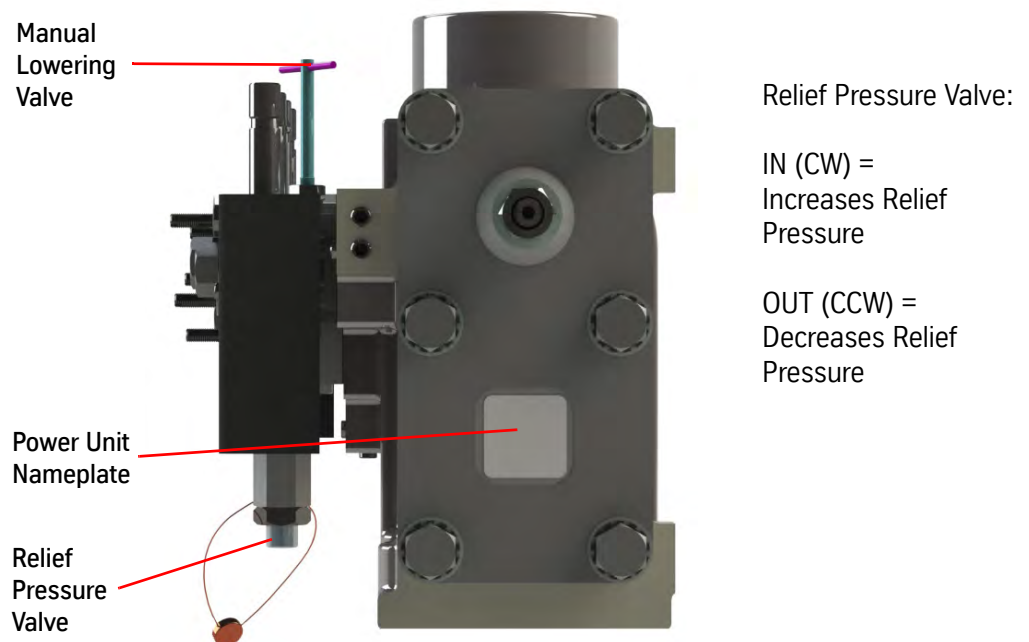

Figure 4 - Relief Pressure Adjustment
4. Adjust the relief valve to relieve at the pressure indicated on the power unit nameplate. See Figure 4.